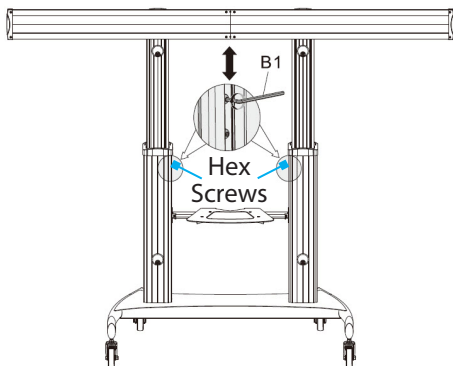

Figure 11
1. Loosen the two **Hex Screws** in each **Column (E+F)** (4 **Hex Screws** total), using the **Hex Key (B1)**, while supporting the full weight of the **Universal Plate Assembly (C+J)**. (Figure 11)